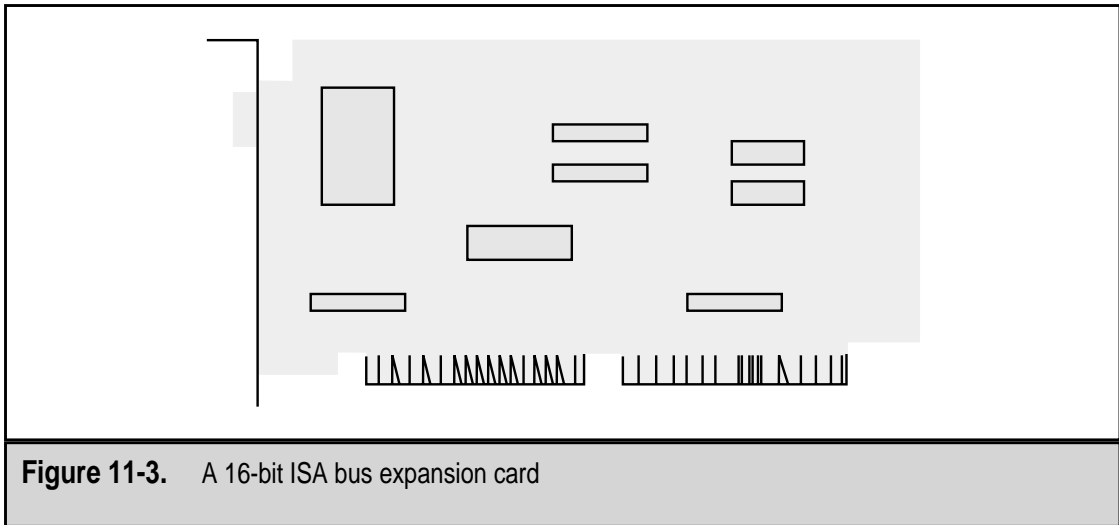
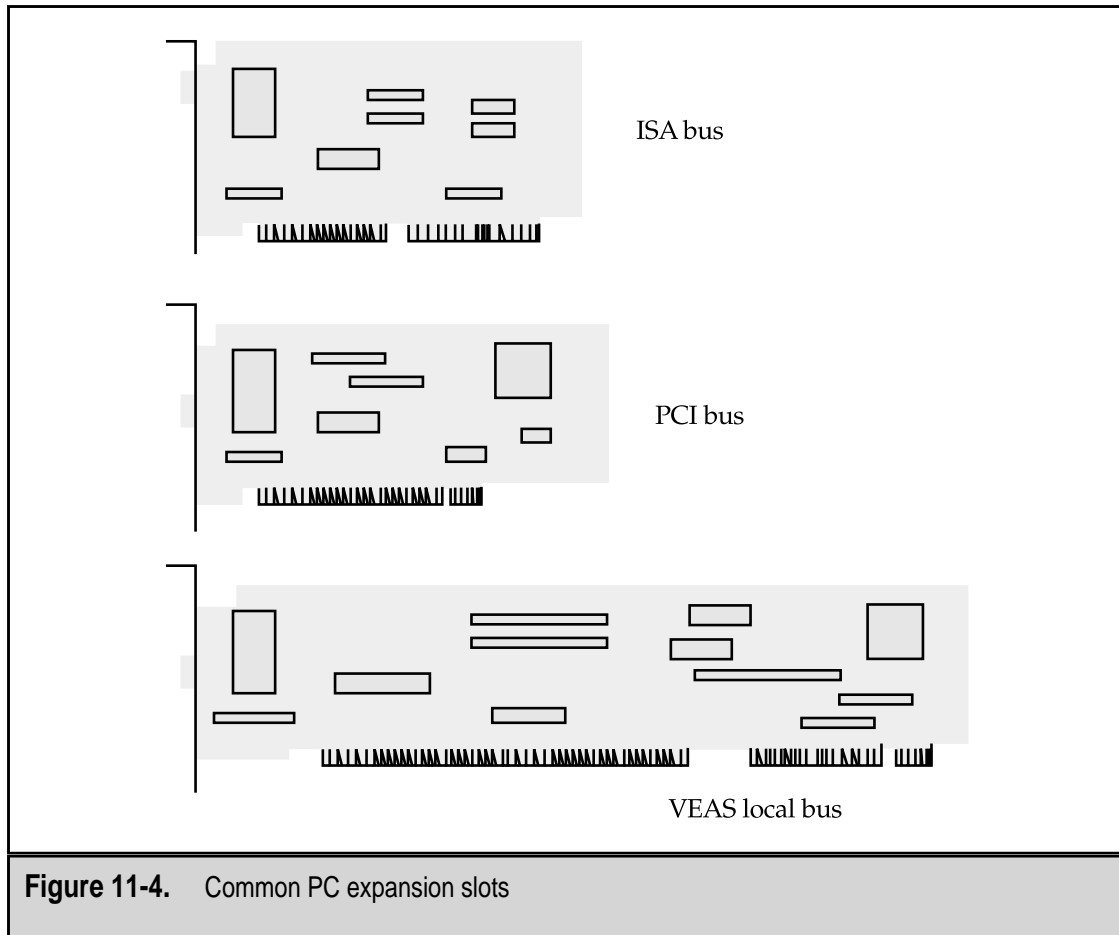

Figure 11-3. A 16-bit ISA bus expansion card
Figure 11-4. Common PC expansion slots
- ▼ **ISA (Industry Standard Architecture)** The ISA expansion bus (which is pronounced as the letters "eye-ess-aye," not "ice-a") is now generally obsolete, but most motherboards still have at least one ISA slot to provide backward compatibility for older hardware. You can still buy ISA expansion cards, but they are becoming hard to find. On most motherboards, the ISA bus slots are 16-bit that will also support 8-bit cards. Figure 11-3 shows a drawing of a 16-bit ISA card. An 8-bit card would have only the left-most half of the edge connector on the bottom edge of the card. The ISA slot, as illustrated in Figure 11-4, is divided into two sections. The 16-bit card occupies both sections and the 8-bit card inserts into only one of the sections.
- **EISA (Extended ISA)** The EISA (pronounced “ee-sa”) bus extended the ISA bus to 32 bits and added bus mastering (see “Bus Mastering” later in the chapter). EISA expansion slots are also backward compatible to ISA cards, with a sectioned slot (shown in Figure 11-4) that support 8-bit and 16-bit ISA cards. EISA has been replaced by the PCI bus (described next), but it is still available on some motherboard designs. Like the ISA slots, EISA are black and are placed next to the ISA slots on those motherboards that include them.
- **VESA local bus (VL bus)** VL bus is a bus architecture developed by VESA (Video Electronics Standards Association) for use with the 486 processor. A local bus is one that is attached to the same bus structure used by the CPU. VL bus is a 32-bit bus that supported bus mastering. The PCI bus has essentially replaced the VL bus on modern PCs. If your PC has a VL bus expansion slot, it is the one next to the ISA and EISA slots that has the extra slot added to the end and is about four inches long in total. Figure 11-4 shows an illustrated view of the relative size of the most common expansion slots.